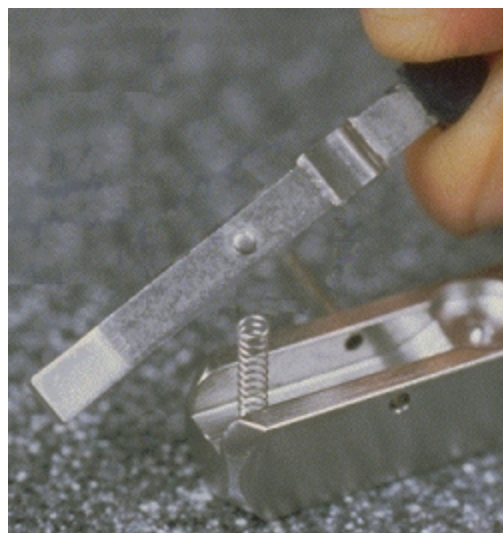

Fig. 13
2. Continue to hold the pin(14) with the tweezers, and apply a very small amount of lubricant to the end. Position the lubricated end of the pin(14) directly onto the hole in the body(11), with the slot facing directly out of the grooved side of the body(11). Using a small ballpeen hammer, gently tap the pin into the hole just until it is well seated, without causing it to protrude into the groove.
3. Turn the control valve body(11) towards you, so that the grooved side is facing up. Place the control valve spring(13) into the recessed hole inside the groove, standing on end. Examine the control valve lever(12) to find the spring retaining tab on its underside (Fig. 13), and lower the lever directly onto the body(11), mating this tab into the spring and positioning the seat over the orifice cone. Press the lever into the groove, slightly compressing the spring, and place your forefinger over the tab to hold it there.